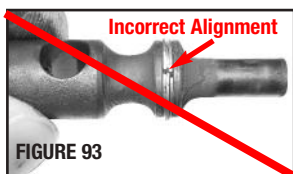

FIGURE 93
- Make sure that the gas-rings on the bolt are NOT aligned when reassembling. (FIGURES 93 and 94)